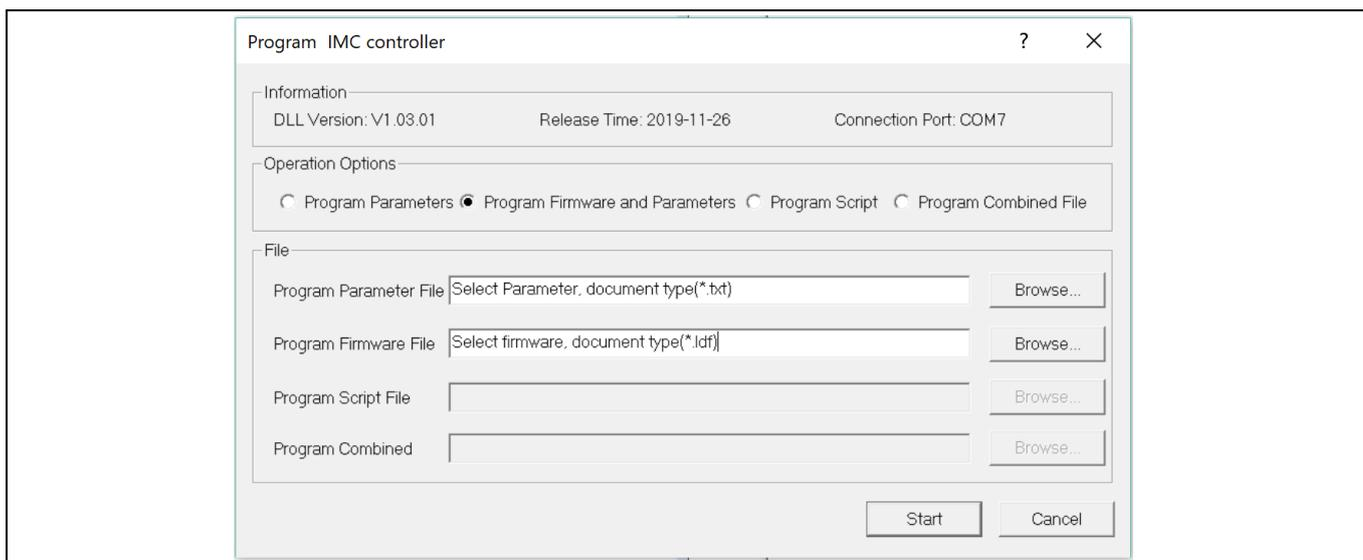

Figure 7 Program the parameters and firmware
- 5. Use the following steps to program the firmware and the parameters’ file into the internal Flash memory of iMOTION™ Control IC: click on system page, click “Tools” > “Programmer” and select “Program Firmware and Parameters,” shown as in Figure 7 below. The encrypted firmware is available at “IMD111T MCE Software Package;” regarding the parameters file, browse and select the’.txt’ file in the section 2.1.2.